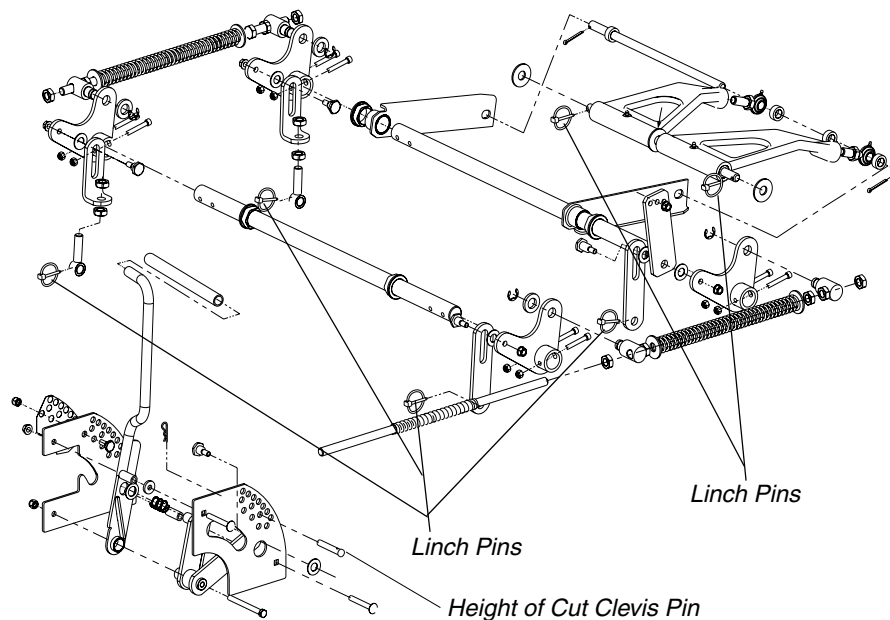

Figure. 6
- Remove six linchpins (See Fig. 6) (4) from the deck and (2) from the front of the mower. Remove the linchpins on the left and right rear side of the cutter deck (2); remove the linchpins on the left and right front side of the cutter deck (2); and remove the linchpins on the front of the mower (2).